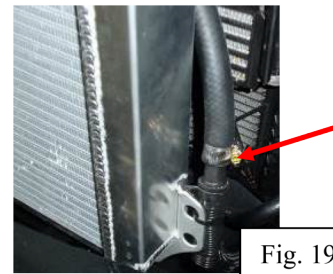

Fig. 19
20. Attach the 36" piece of heater hose to the inlet of the heat exchanger using the supplied hose clamp with a 5/16" nut driver. Route the hose to the driver side of the vehicle. This hose may need to be trimmed to size and then attach it to the factory Roush hose coupler with the supplied hose clamp. Zip tie the hose to the plastic fan housing (make sure not to go around the fan blade) and also to the side of the heat exchanger (Fig. 19).